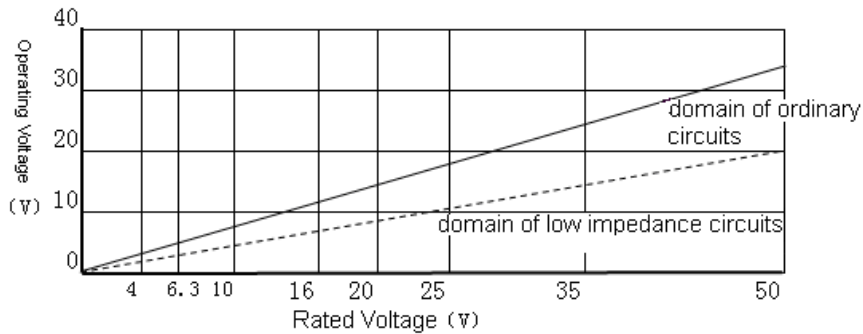

Fig.7.5-1
- a. The operating voltage of tantalum capacitors used in low impedance circuits, such as filters for power supplies (particularly switching power supplies), should be derated to less than one-third of rated voltage. In other case, keep the operating voltage below tow thirds of rated voltage. Refer to **Fig.7.5-1** for detail:
- c. Connecting a resistor in series with capacitor is suggested to alleviate the shock caused by excessive momentary current. Please connect a protecting resistor of 3Ω/V or higher in series with the capacitor to keep current below 300mA. If protecting resistors could not be applied; please make sure operating voltage is below one-third of rated voltage (**Fig.7.5-1**).